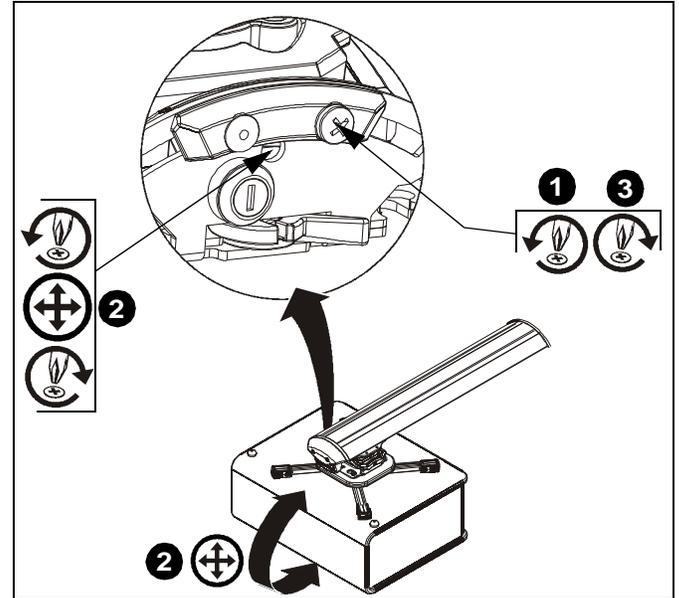

Figure 21
1. Loosen Pitch adjustment locking screw using a #2 Phillips screwdriver. (See Figure 21)
2. Turn Pitch micro-adjustment screw right or left using a #2 Phillips screwdriver until image is properly aligned on target. (See Figure 21)
3. Tighten Pitch adjustment locking screw using a #2 Phillips screwdriver. (See Figure 21)